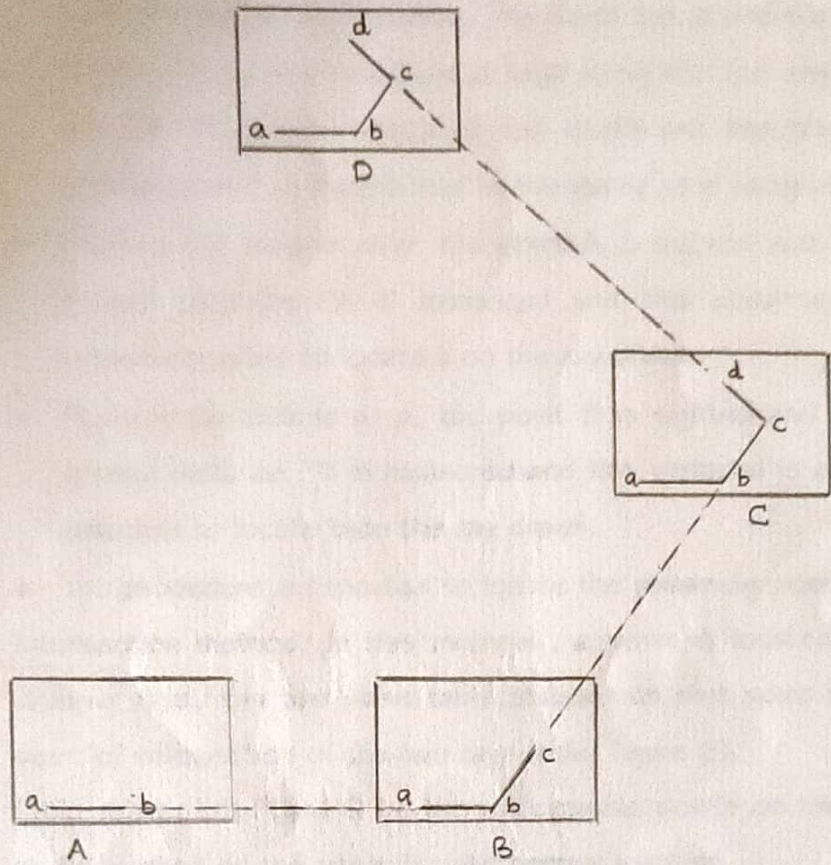

Figure 3 : Traversing
3. Traversing method: In this method traverse stations are first selected. The plane table is set successively on all the traverse stations and a back sight is taken on the preceding station and a fore sight is taken on the following station. The measured traverse lines are plotted directly on the drawing paper to a suitable scale in the field. (refer figure 3)